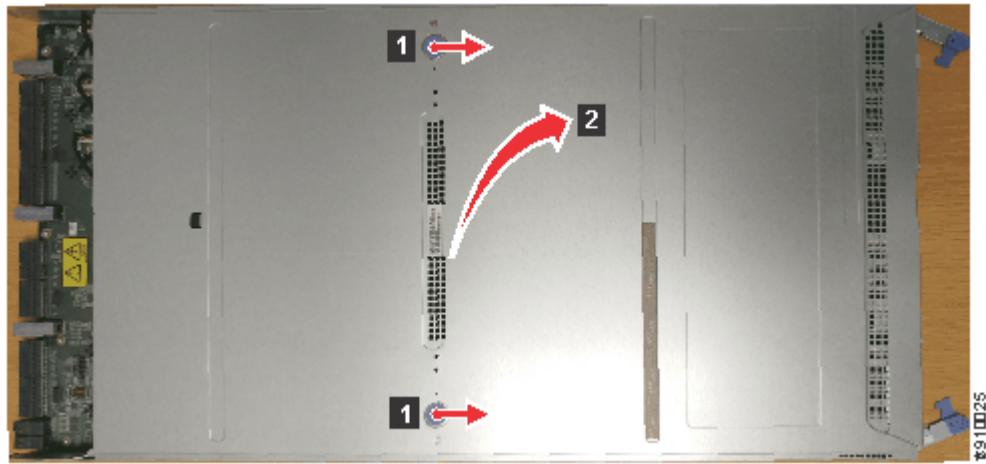

Figure 86. Removing the node canister cover
3. Open the cover of the node canister by depressing the recessed, blue touch points on the lid (1) and sliding the lid away from you (2), as shown in Figure 86 on page 130.